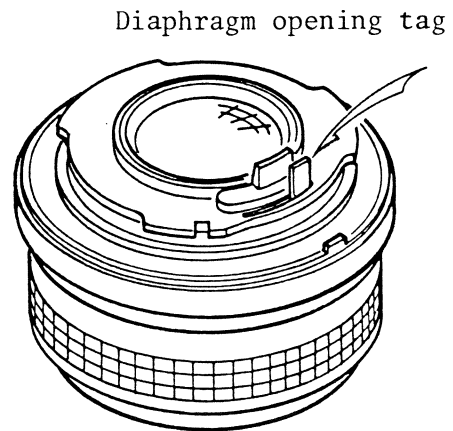

Fig.29
1. Check the operation of the diaphragm opening tag of the lens. Smoothness is required for it. (Fig. 29)